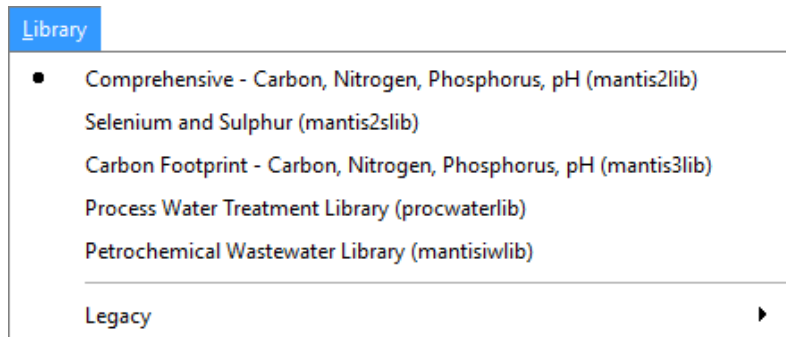

Figure 13-1 - Select Library
2. Select the **Comprehensive (mantis2lib)** from the **Library** menu (if it isn't already selected) (see **Figure 13-1**)